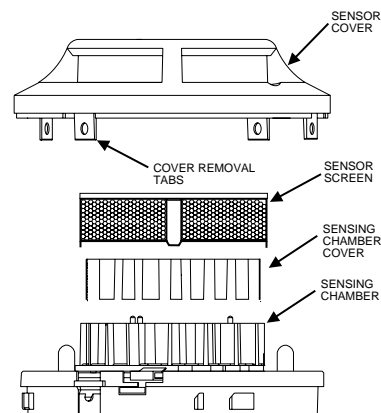

Figure 4.
3. Remove the screen assembly by pulling it straight out (see Figure 4).